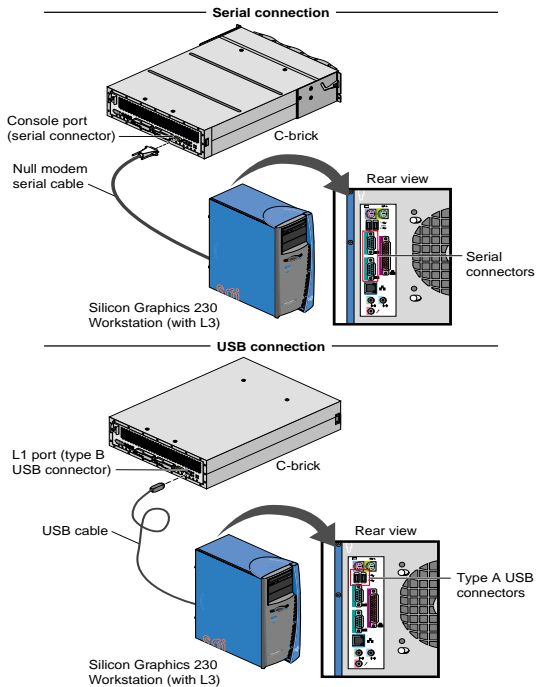

Figure 6 Connecting the Workstation to an SGI Origin 3200 C-brick
You can connect a Silicon Graphics 230 visual workstation to an SGI Origin 3200 server without an L2 controller hardware system by connecting to the console port (serial port) or the L1 port (USB port) on the SGI Origin 3200 server C-brick. (See Figure 6.)
To connect the Silicon Graphics 230 visual workstation to the console port on the SGI Origin 3200 server C-brick, follow these steps (see Figure 6):
3. Connect a null modem serial cable from the workstation to the console port on the C-brick (see Figure 6).
To connect a Silicon Graphics 230 visual workstation to the L1 port (USB port) on the SGI Origin 3200 server C-brick, follow these steps (see Figure 6):